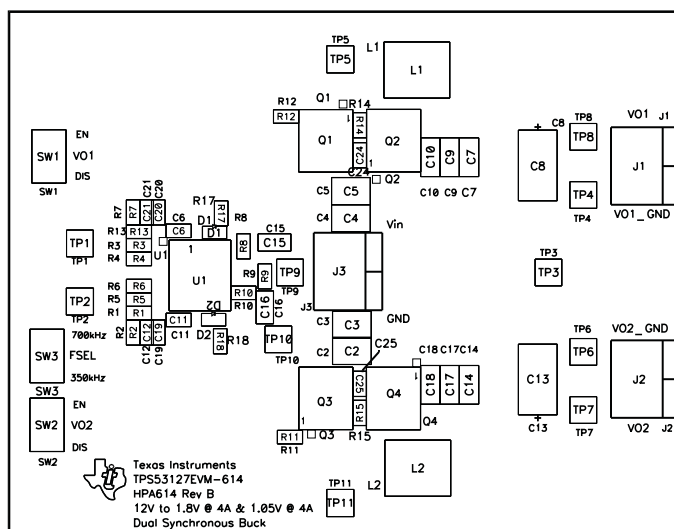

Figure 12. Top Assembly
The following figures (Figure 12 through Figure 16) show the design of the TPS53127EVM-614 printed circuit board. The EVM has been designed using a 4-Layer, 2oz copper-clad circuit board 3.5 in 2.7 to allow the user to easily view, probe and evaluate the TPS53127 control IC in a practical application. Moving components to both sides of the PCB or using additional internal layers can offer additional size reduction for space constrained systems.
**Table 3** contains the Bill of Materials for TPS53127EVM-614. The reference designators reference the Schematic in Figure 1 and Assembly locations in Figure 12. Components with a Quantity 0 listed are not populated on the PCB but are provided for reference.